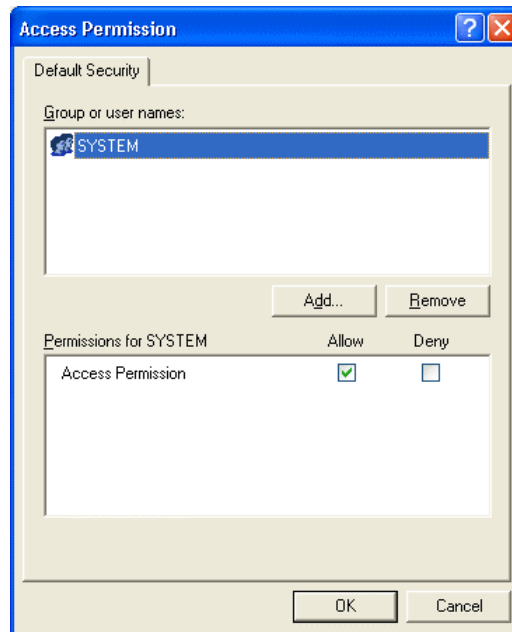

Fig. 6.3-22 Access Permission Window
16. Click on **Add** button. (Shown in **Fig. 6.3-22.**)